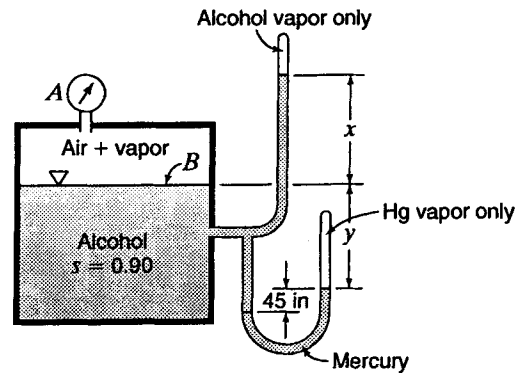

Figure X3.5.8
- 3.5.8 In Fig. X3.5.8, atmospheric pressure is 14.80 psia; the gage reading at A is 3.7 psi; the vapor pressure of the alcohol is 1.4 psia. Compute  $x$  and  $y$ .